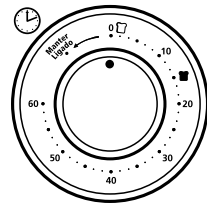

Figure 3
4. **Timer Selector Knob** – Allows to adjust the dial to the desired time for up to 60 minutes. Oven will automatically shut off when cooking is completed. (See Figure 3)